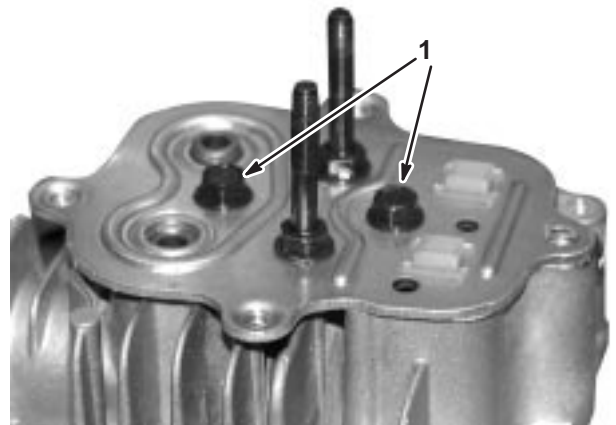

Fig. 54 – Installing Cylinder Head Plate
2. Install and torque two (2) cylinder plate screws to 80 in. lbs. (9.0Nm), Fig. 54.